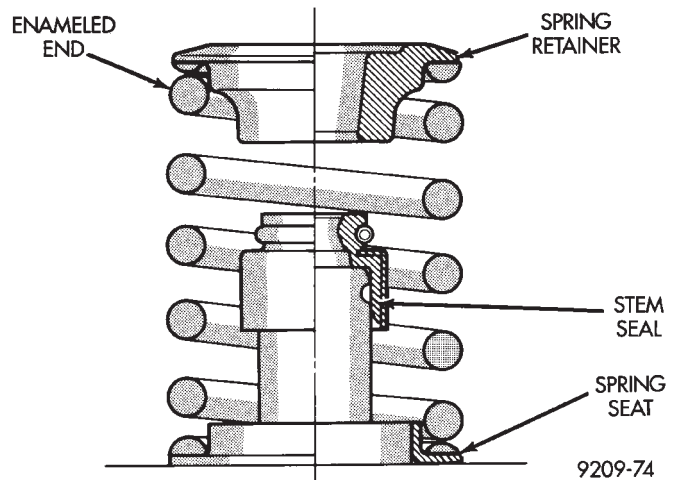

Fig. 25 Installed Valve Spring Position
(3) Install valve spring with the enamelled ends facing the rocker arms (Fig. 25).